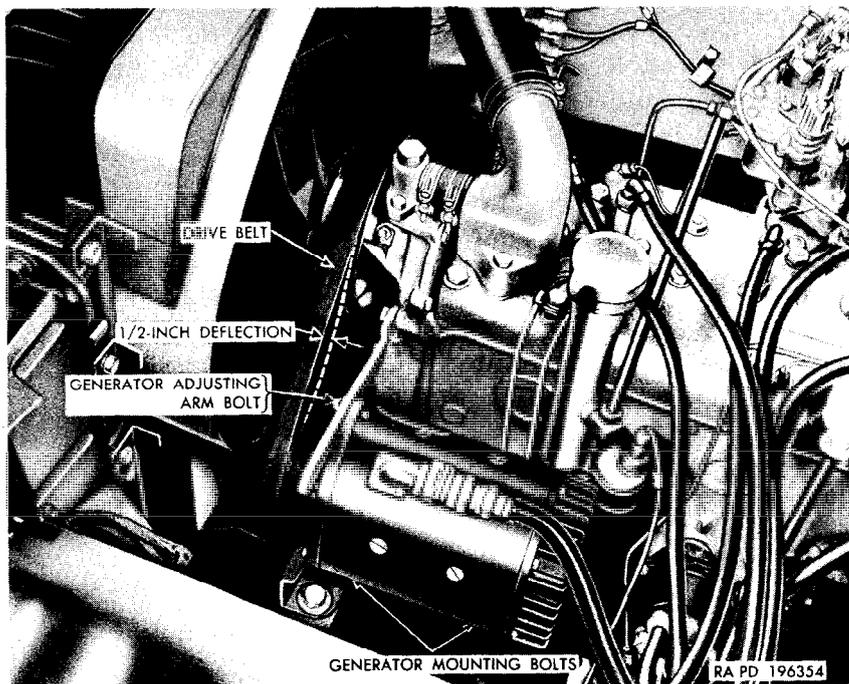

Figure 121. Adjusting fan and generator drive belt.
a. Adjustment. Loosen the generator adjusting arm bolt, and move the generator toward or away from the engine to provide $\frac{1}{2}$ -inch deflection of the belt (fig. 121). Tighten the adjusting arm bolt.
- (1) Loosen the generator adjusting arm bolt (fig. 121) and push the generator toward the engine as far as possible. Disengage the belt from the generator drive pulley, the crankshaft pulley, and the fan drive pulley and remove the belt over the fan blades.
- (2) Place a new belt over the fan blades, install it in position on the crankshaft pulley, the fan drive pulley, and the generator drive pulley. Adjust the belt (*a* above).